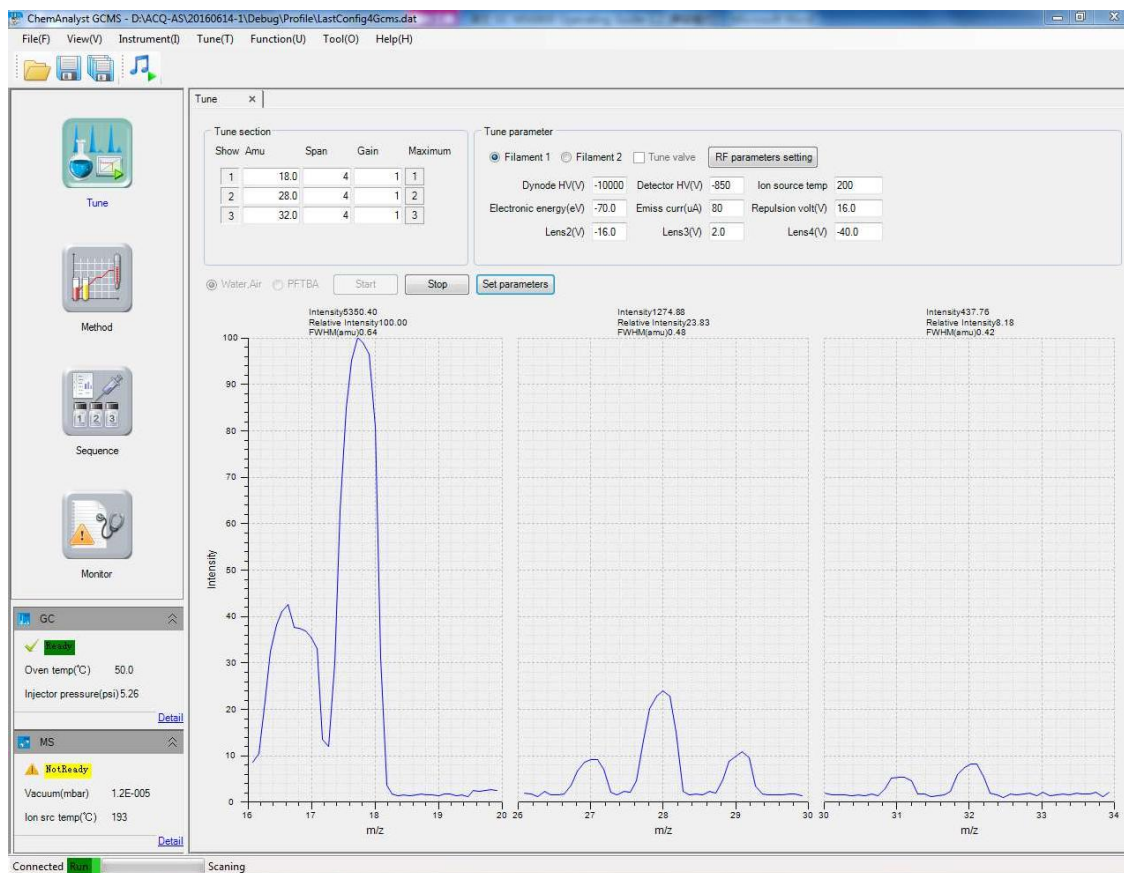

Figure 3-3 Tuning Panel
- (7) If the peak intensity of the spectrum is m/z 18(H_2O) > m/z 28(nitrogen) > m/z 32(oxygen) (As shown in Figure3-3), and the nitrogen- oxygen ratio is lower than 3.7, the instrument has no gas leak.
- (8) If the above mentioned conditions are not satisfied, the instrument may have a gas leak somewhere; stop scanning immediately, check for leakage points and resolve the problem; otherwise the lifetime of filaments will be severely shortened.